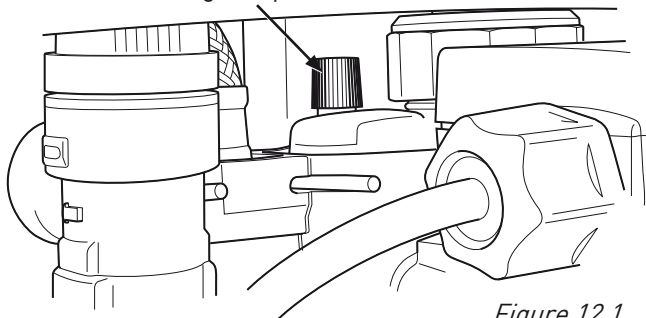

Figure 12.1
12.3 Release the cover cap of the boiler's automatic air vent situated on top of the pump. (Figure 12.1)